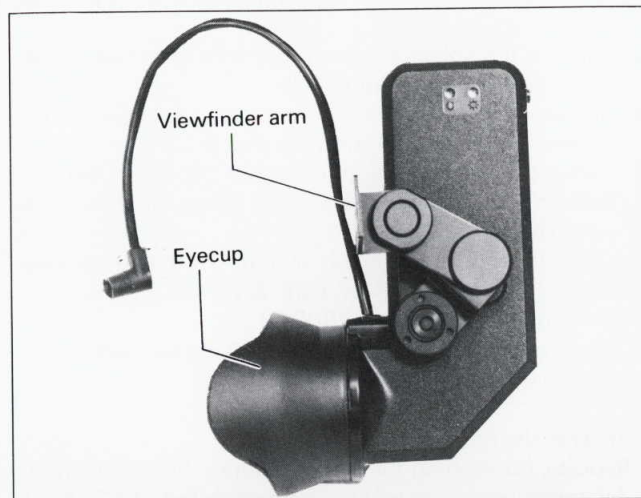
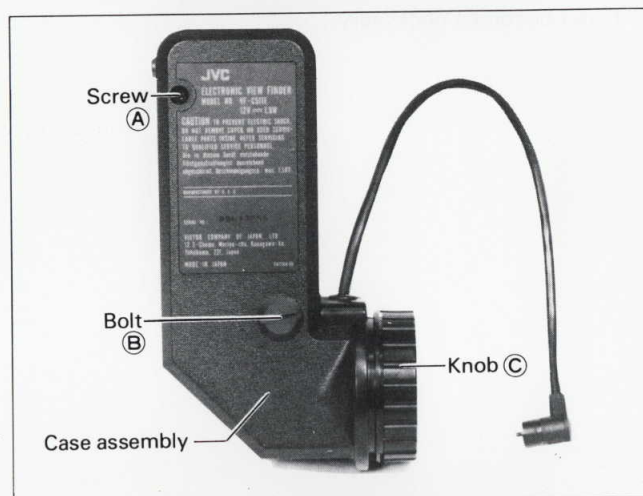

Fig. 10-1 Directions of eyecup and viewfinder arm
Fig. 10-2 Disassembly of case
- (1) Remove the eyecup shown in **Fig. 10-1** by stretching it. Replace as shown in **Fig. 10-1**.
- (2) The case can be disassembled by removing screw (A) bolt (B) (removal of bolt (B) allows the viewfinder arm to be detached) and knob (C) shown in **Fig. 10-2**. At this time, handle the lens with care. For re-assembly, position the viewfinder arm as shown in **Fig. 10-1** (on the side nearer the camera body). (Refer to "Exploded view of the Electronic Viewfinder" for further disassembly.)